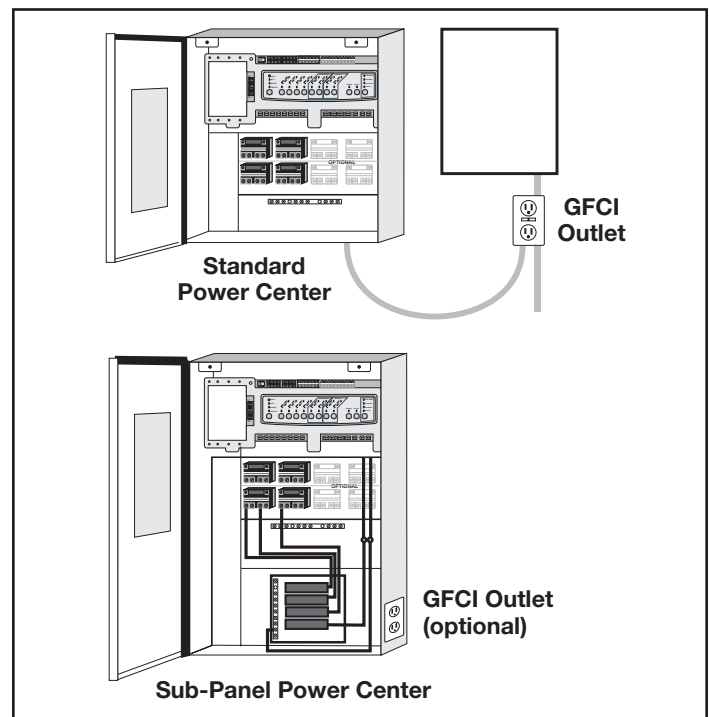

Figure 6. GFCI Installation for High Voltage Underwater Lighting
1. For a standard power center, install a GFCI receptacle or RCD next to the breaker panel. For a sub-panel power center install a GFCI receptacle in the power center (use the knockout provided on the right side of the sub-panel power center). See Figure 6.